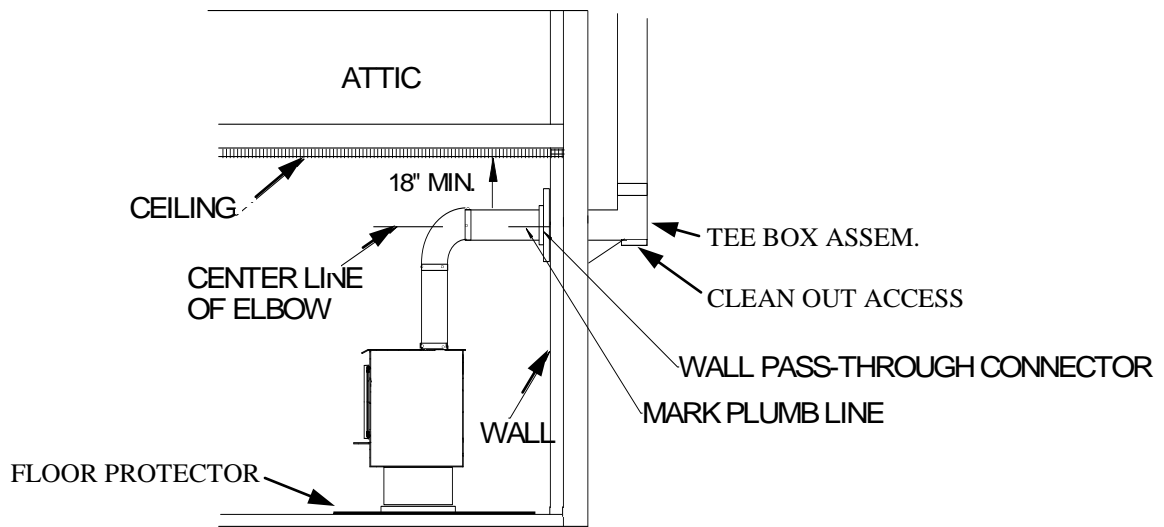

Figure 11
1. Mark plumb line on wall directly behind center of heater. (See Figure 11).